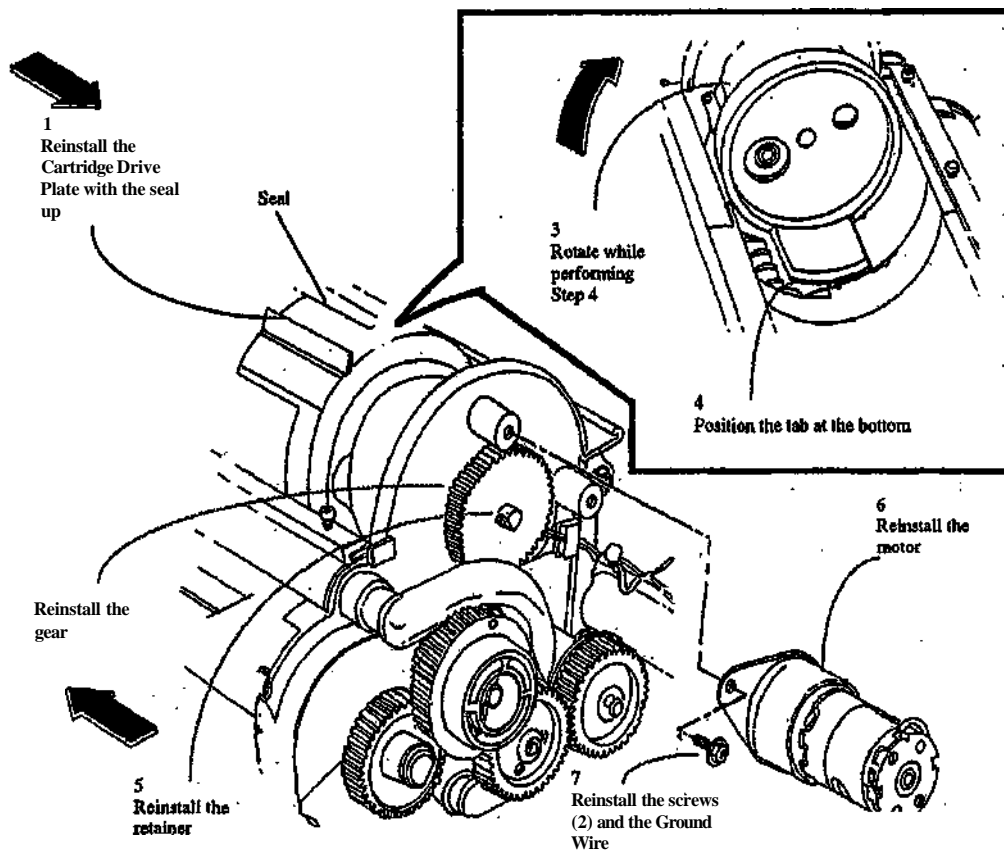

Figure 2. Reinstalling the Cartridge Drive Plate
To avoid damage to the Drive Plate Seal, always rotate the drive plate in the direction shown in Figure 2.
1. (Figure 2): Reinstall the Cartridge Drive Plate.